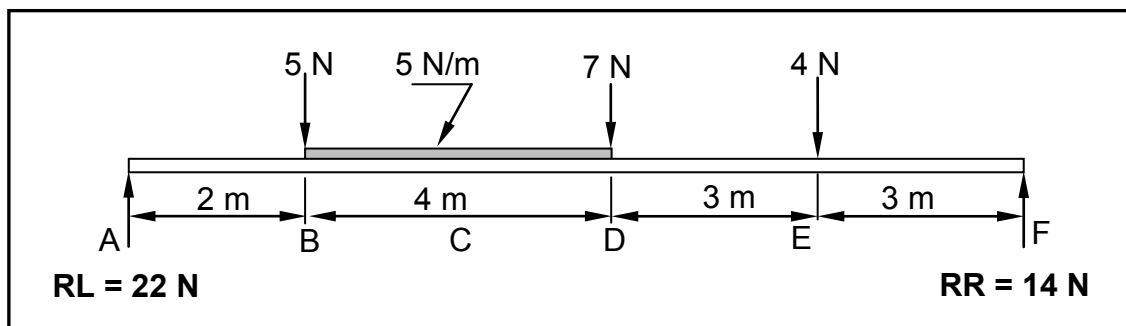

FIGURE 5.3
5.3 FIGURE 5.3 below shows the space diagram of a beam with a span of 12 metres, with three point loads and a uniformly distributed load. Study the diagram and answer the questions that follow.